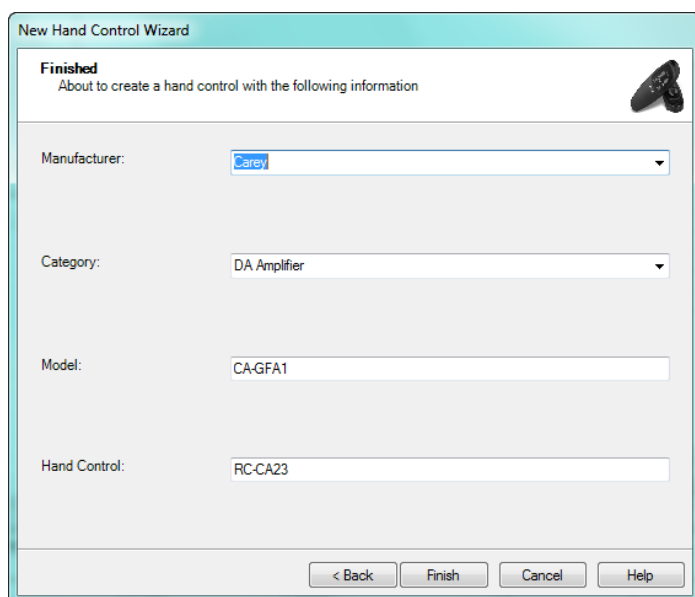

FIG. 18 New Hand Control Wizard - Finished dialog
6. Click **Next** to proceed to the *Finished* dialog (FIG. 18):